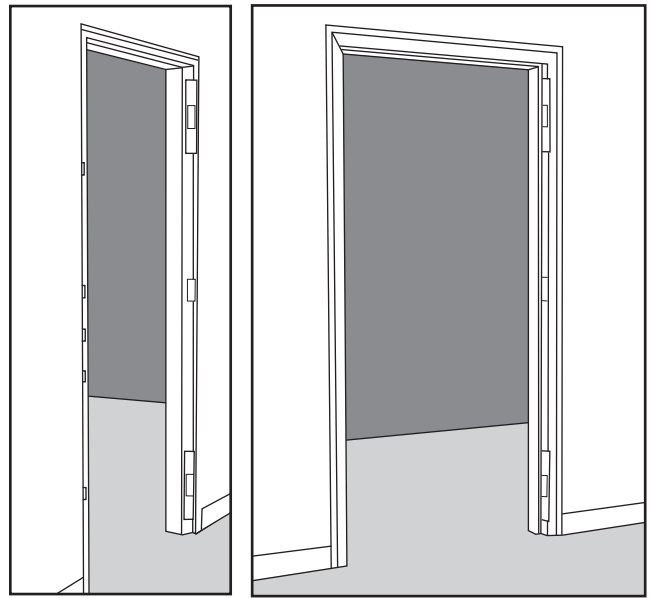

FIG. HS-06
10. Trim all shims flush with the edge of the door jamb and re-install the interior door trim moulding (FIG. HS-06).